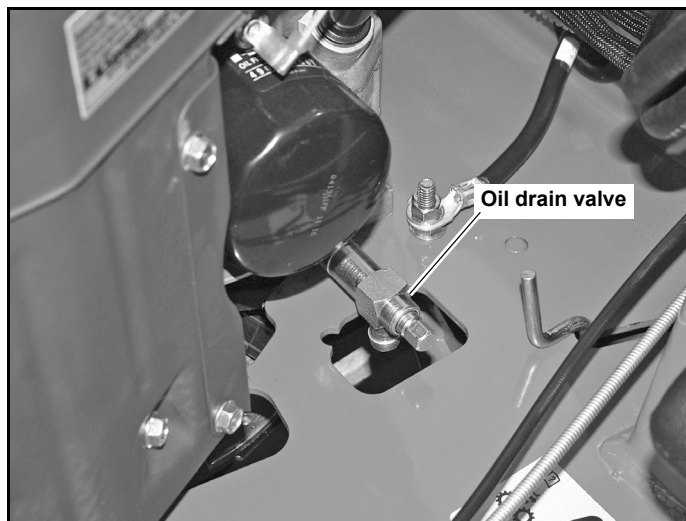

Figure 4-5
1. Locate the oil drain valve on the engine. Figure 4-5